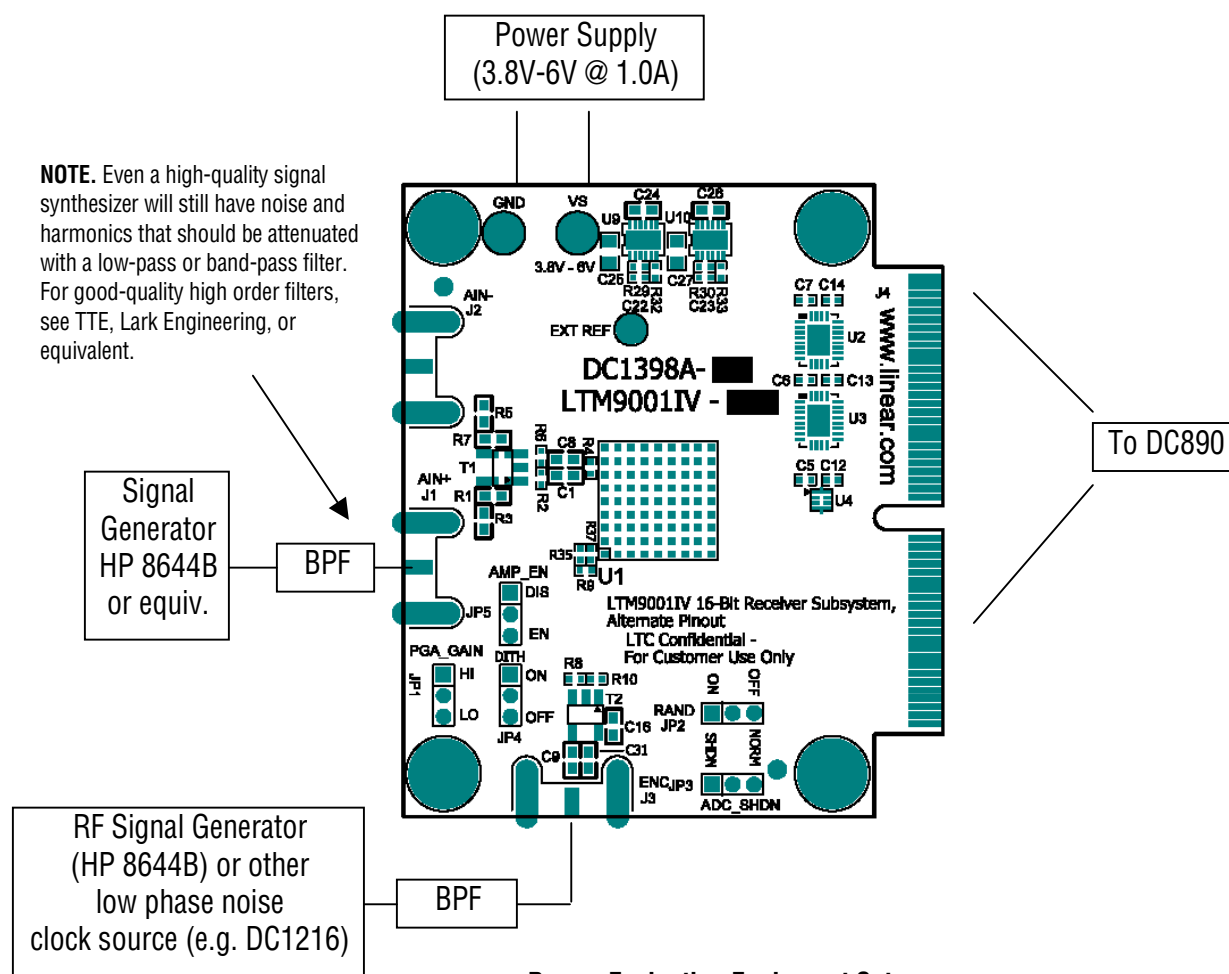

Figure 1. Proper Evaluation Equipment Setup
Validating the performance of the LTM9001 is simple with DC1398, and requires only an input source, a clock source, a computer, and a lab power supply. Refer to Figure 1 for proper board evaluation equipment setup and follow the procedure below:
1. Connect the power supply as shown in Figure 1. There are on-board low-noise voltage regulators that provide the three supply voltages for the LTM9001. The entire board and all components share a common ground. The power supply should still be a low-noise lab power supply capable of supplying at least 1 Amp.